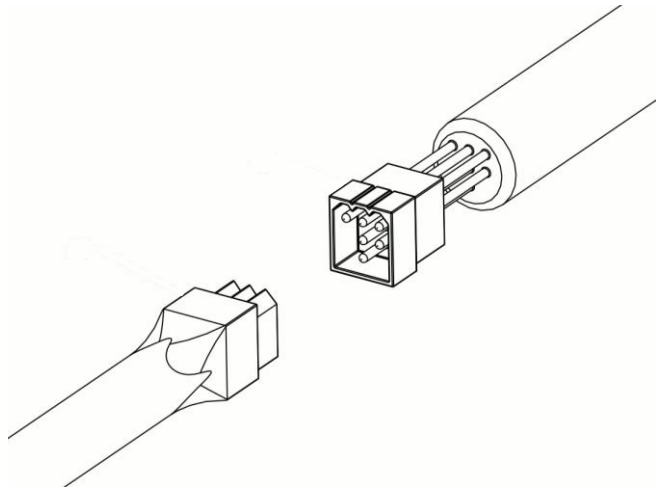

Figure 9. Control Connection
7. Connect the Control connector to the mating Vehicle Side Wiring Harness (17) connector as shown in Figure 9.